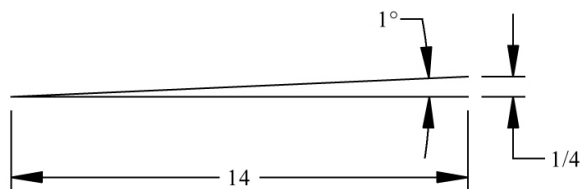

Figure 7
6. Do not load between surfaces that exceed one-degree deviation from parallel. See figure 7.